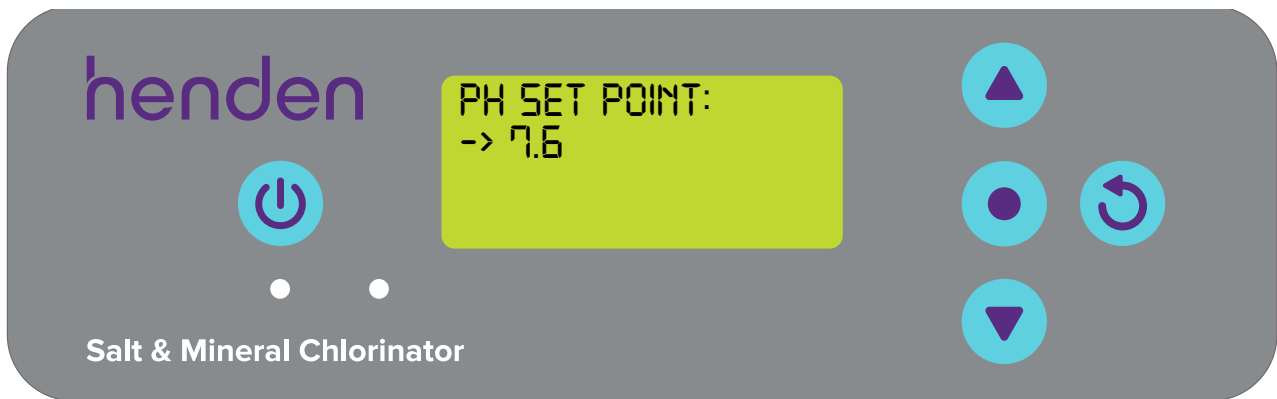

Figure 8.7
- Press the  **menu/setting select** button. The next screen shows the current pH set point (Refer Figure 8.7);